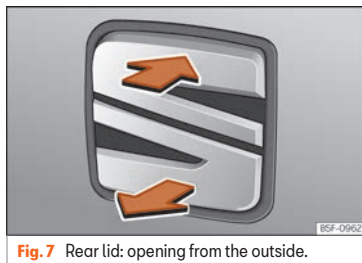

Fig. 7 Rear lid: opening from the outside.
- Opening the rear lid: pull on the release lever and lift it up » » » **Fig. 7**. The rear lid opens automatically.